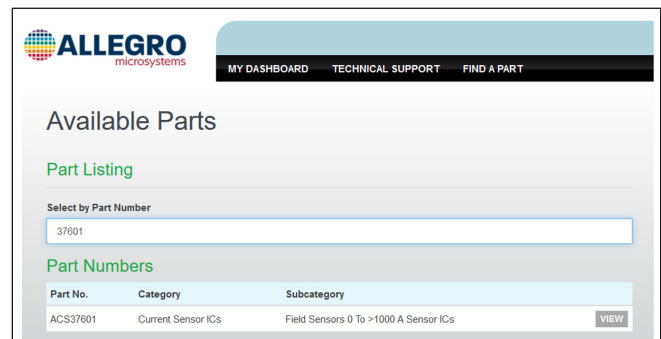

Figure 3
4. Search for “ACS37601” in the “Select by Part Number” search bar shown in Figure 3.